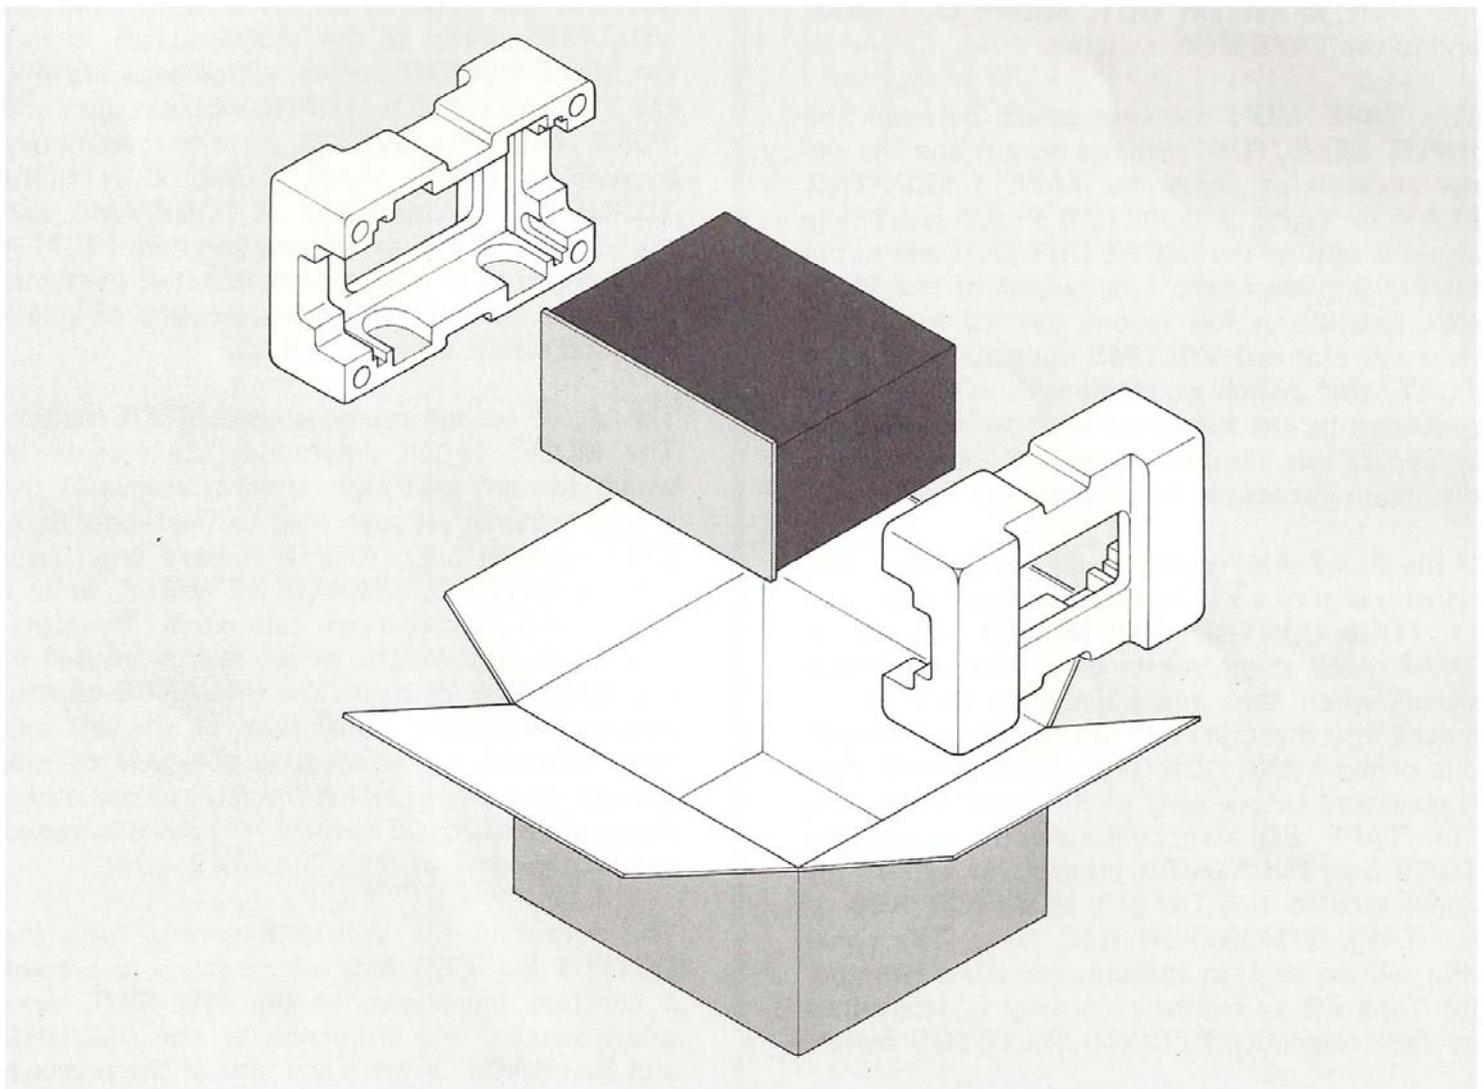

Figure 7. Repacking Illustration
- b. Pack the unit carefully, using the original material as shown in Figure 7.